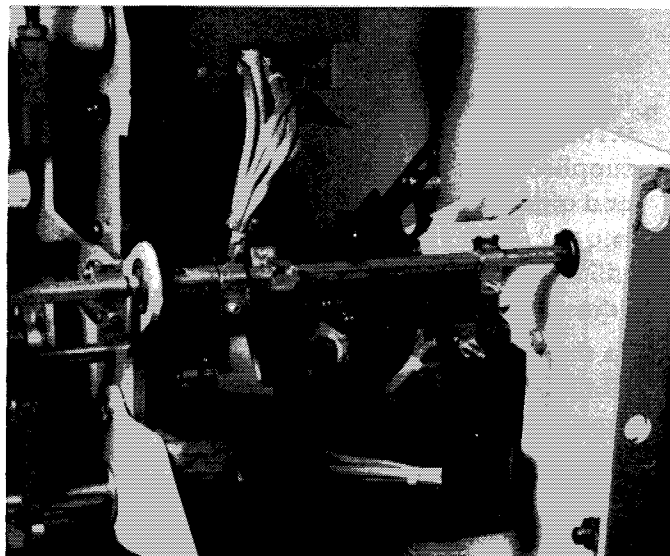

Fig. 3-10. Flux Shifter Installed
2. Install the new flux shifter, position the insulator and programmer connector bracket as shown in Fig. 3-10.
Install the new flux shifter, positioning the insulator and programmer connector bracket as shown in Fig. 3-10.
Install the new flux shifter device, positioning the insulator and programmer connector bracket as shown in Fig. 3-10.
The 15-pin connector is inserted into the programmer connector bracket which is part of the flux shifter assembly. See Fig. 3-10. Insert the connector so that the Number 1 pin is toward the breakers' top, right-hand side.
Install the programmer harness as shown in Fig. 3-10. Include the flux shifter leads with this harness. Join the 4-pin connector on the programmer harness to the 4-pin connector on the flux shifter.